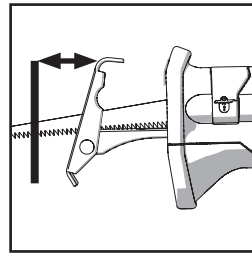

Fig. 3
- Loosen the two socket headed screws (Fig. 3)